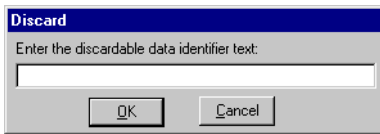

Figure 5.4: Enter the discardable data identifier text
1. Click on the '**Add**' button located at the bottom of the area called 'Discard Data Containing:'. You'll see the [Discard] dialog box (see Figure 5.4), prompting you to "Enter the discardable data identifier text."